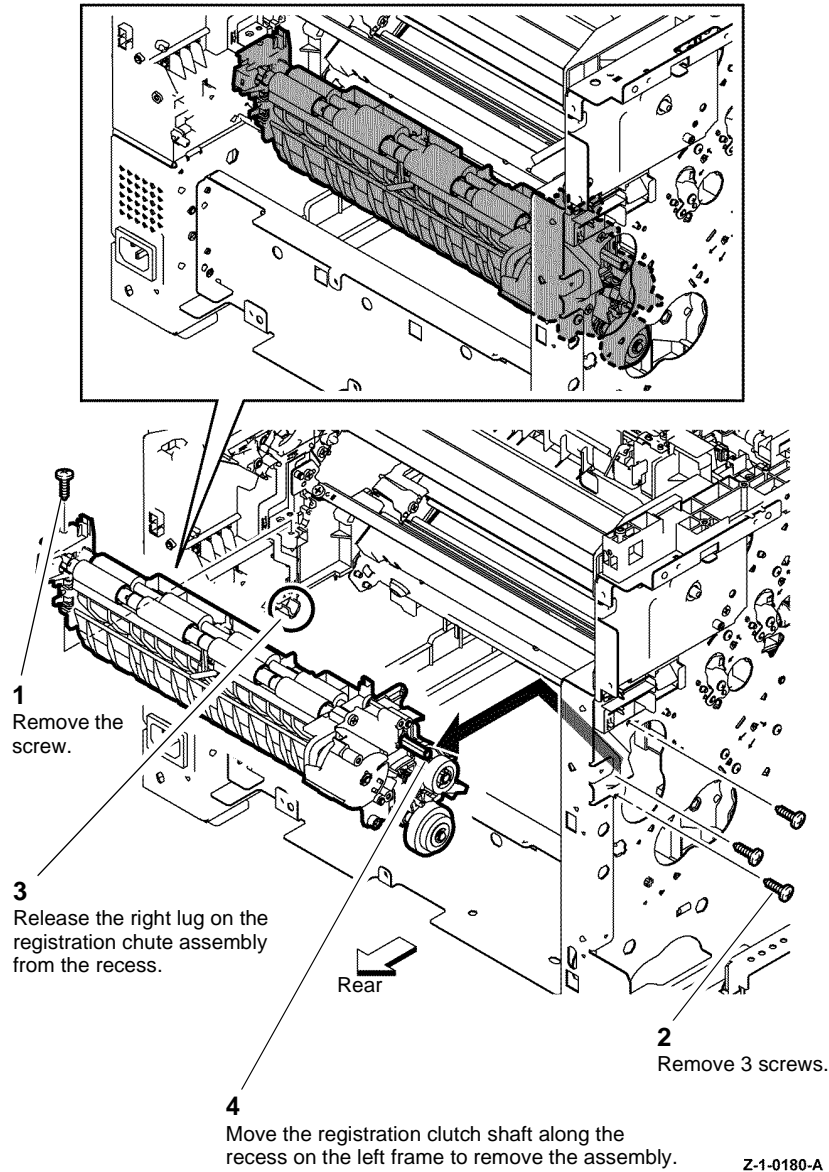

Figure 3 Registration chute assembly
11. Remove the registration chute assembly, Figure 3.